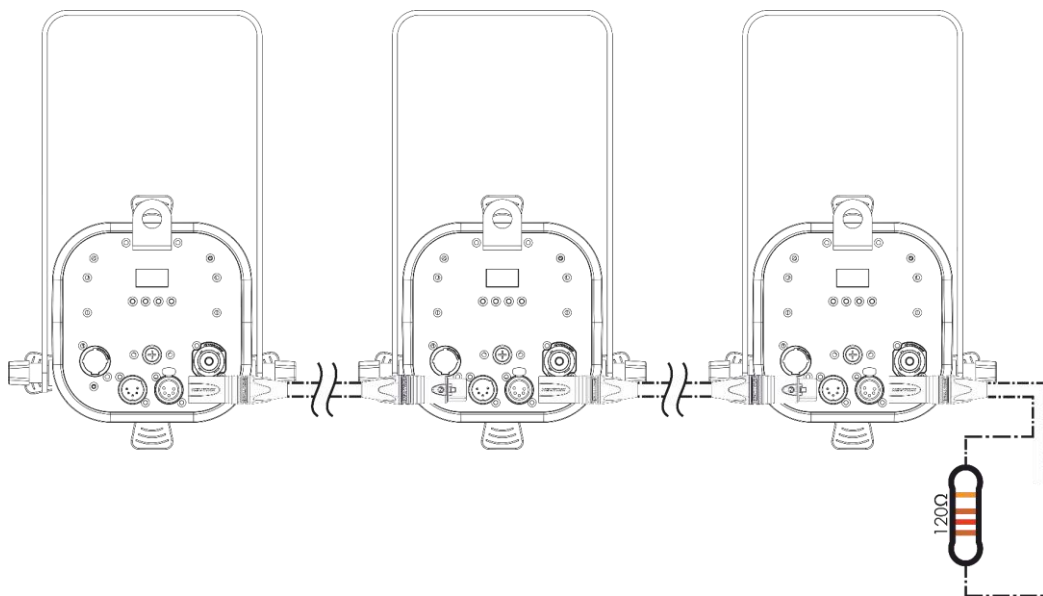

Fig. 08
- 02) Repeat step 1 to connect all devices as shown in Fig. 08.